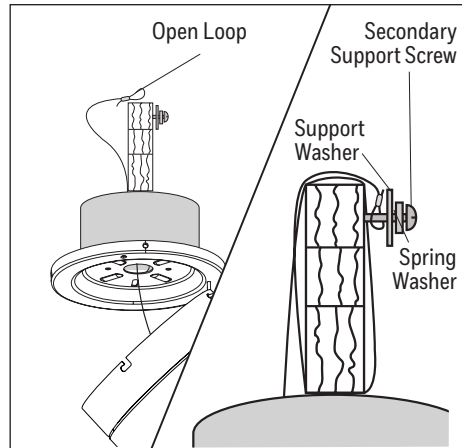

Figure 3.2
- Install secondary support screw, spring washer and support washer partly into the side of the brace installed in the ceiling. Then loop the braided cable up and over the ceiling brace and place the open loop of the braided cable around the secondary support screw. **Note:** The ceiling support brace may not be accessible from below. If not, it must be accessed from above. **Important:** The braided cable must make a complete circle around the support brace to secure the fan (Figure 3.2).